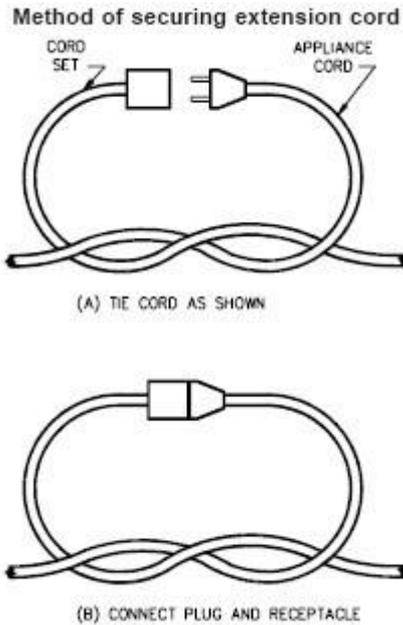

Fig. 1-1
- i) Make a knot as shown in Figure 1-1;